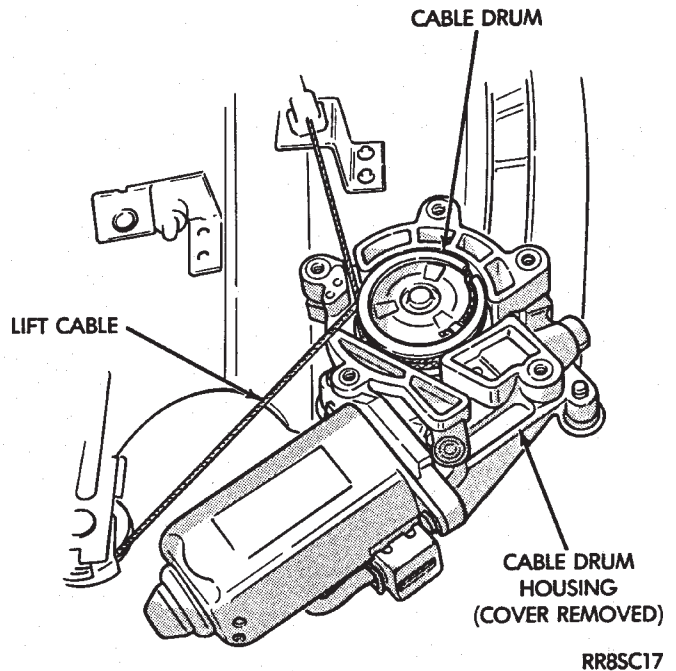

Fig. 22 Cable Drum and Lift Cable — AJ Body
- (3) Remove the mounting nuts on the lift plate and remove the glass and lift plate assembly.
- (4) Remove motor from regulator plate.
- (5) Remove cover plate on cable drum housing (Fig. 22).